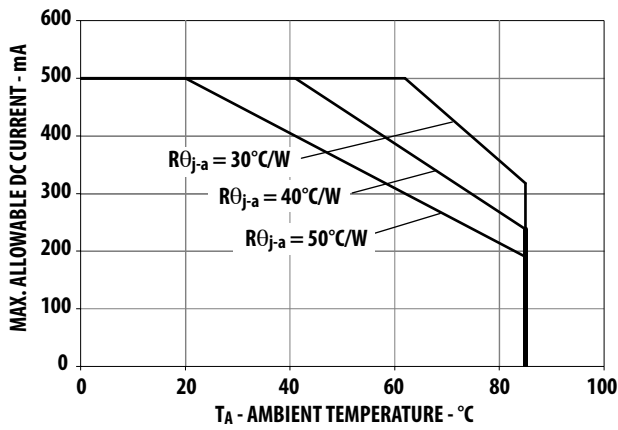

Figure 8. Maximum forward current vs. ambient temperature
- Derate linearly based on Figure 8 and 9.